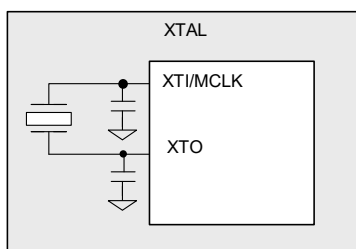

Figure 4-9. System Clocking—Crystal Mode
- Sourced from a crystal oscillator between XTAL/MCLK and XTO pins (see Fig. 4-9), then used directly as MCLK_INT